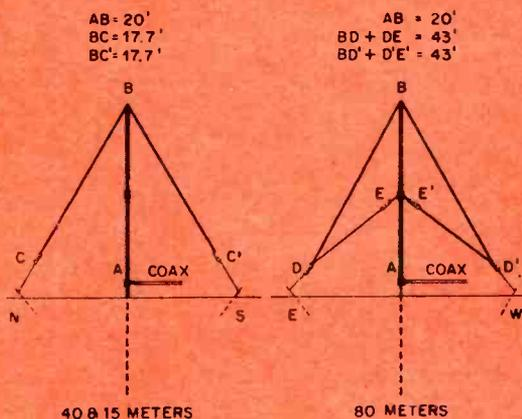

Fig. 2—Diagrams show approximate lengths for all sections. Guys BC and BC' operate on 40-15 meters; guys BDE and BD'E' are for 80 meters.
detail in a moment, should be about 14-gauge wire. Be sure to space them roughly 90 degrees apart around the mast. The directional letters (N, S, E, W) in Figs. 2 and 4 are merely to remind you of the 90-degree spacing.
The lengths of the four guys are shown in Fig. 2. To arrive at the proper length for a $\frac{1}{4}$ -wave against ground, divide your operating frequency in megacycles into 234 (using what is called the 234 Formula). Just for the record, the complete formula we're dealing with
The diagram at the right in Fig. 2 indicates that two of the guys should be 43 feet long. When you add the length of the guy (43) to the height of the mast (20), you get 63 feet, which is exactly what the formula gives you as the length of a $\frac{1}{4}$ -wave element cut for the center frequency of the 80-meter Novice band.
Fig. 4—How the Mainmast is rigged. Dimensions for the guy wires may be found in Fig. 2. Note that the 40-15 meter guys run straight to ground stakes, 80-meter guys double back to guy ring.